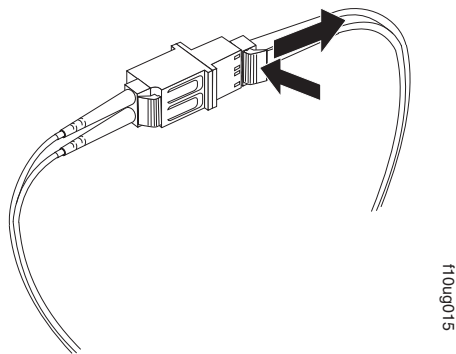

Figure 47. Removing the LC-LC fibre-channel cable from an LC-SC fibre-channel cable adapter
2. Carefully pull on the connector to remove it. Make sure you grasp the connector and not the cable when removing the LC-LC cable from the LC-SC cable adapter as shown in Figure 47.